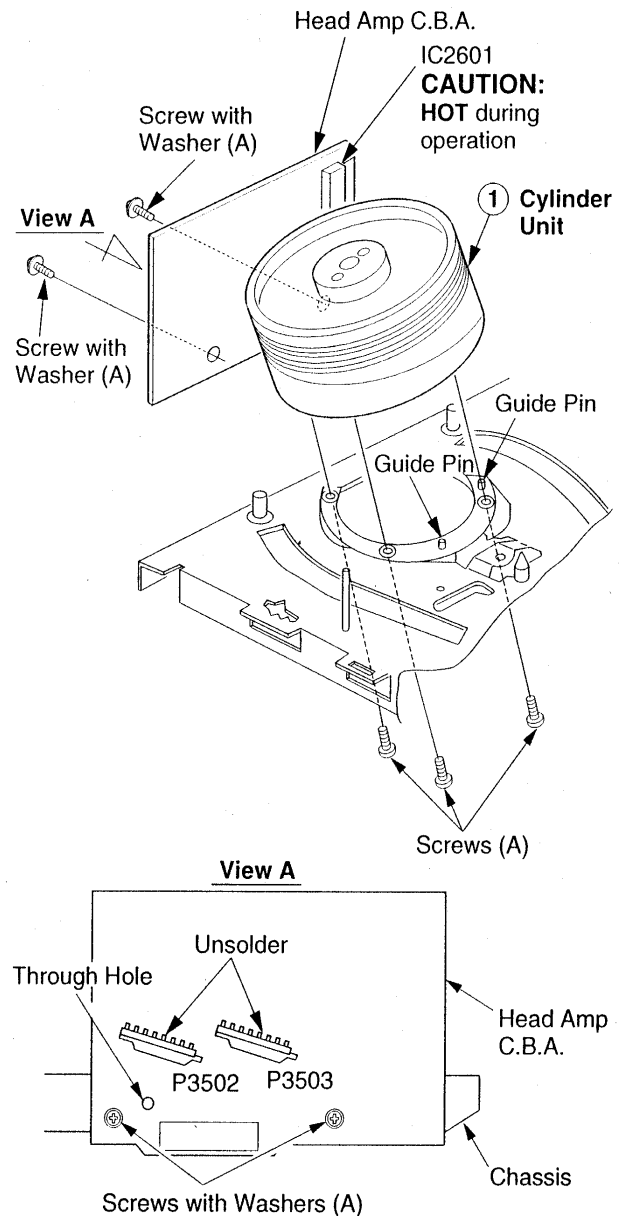

Fig. 1 -Cylinder Assembly Removal
MECHANISM DISASSEMBLY (Continued)**Cylinder Assembly Removal (Fig. 1)**
- When reinstalling, make sure that the holes on the cylinder assembly fit onto the two (2) guide pins on the cylinder base (Fig. 1). After the cylinder assembly is positioned on the two (2) pins, lightly secure it with three (3) screws (A).
- Install the head amp assembly so that the hole on the head amp assembly lines up with the hole on the chassis and secure it with two (2) screws with washers (A).
- Position the cylinder unit so that the foil patterns of connectors (P3502, P3503) and the head amp assembly are aligned and tighten three (3) screws (A).